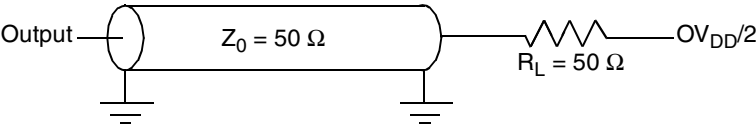
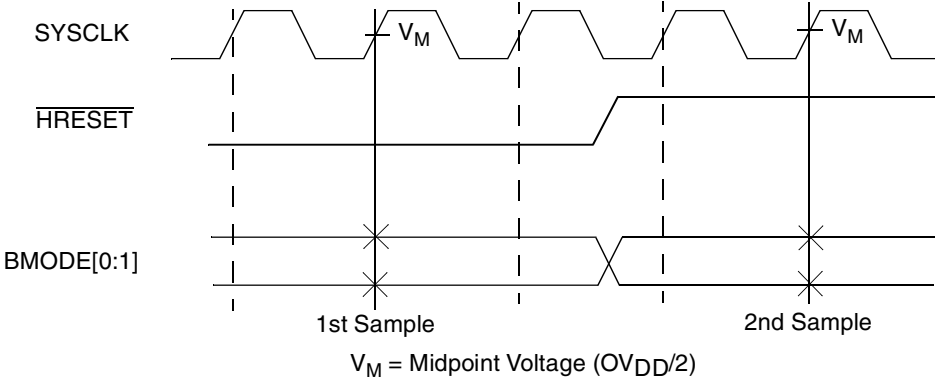
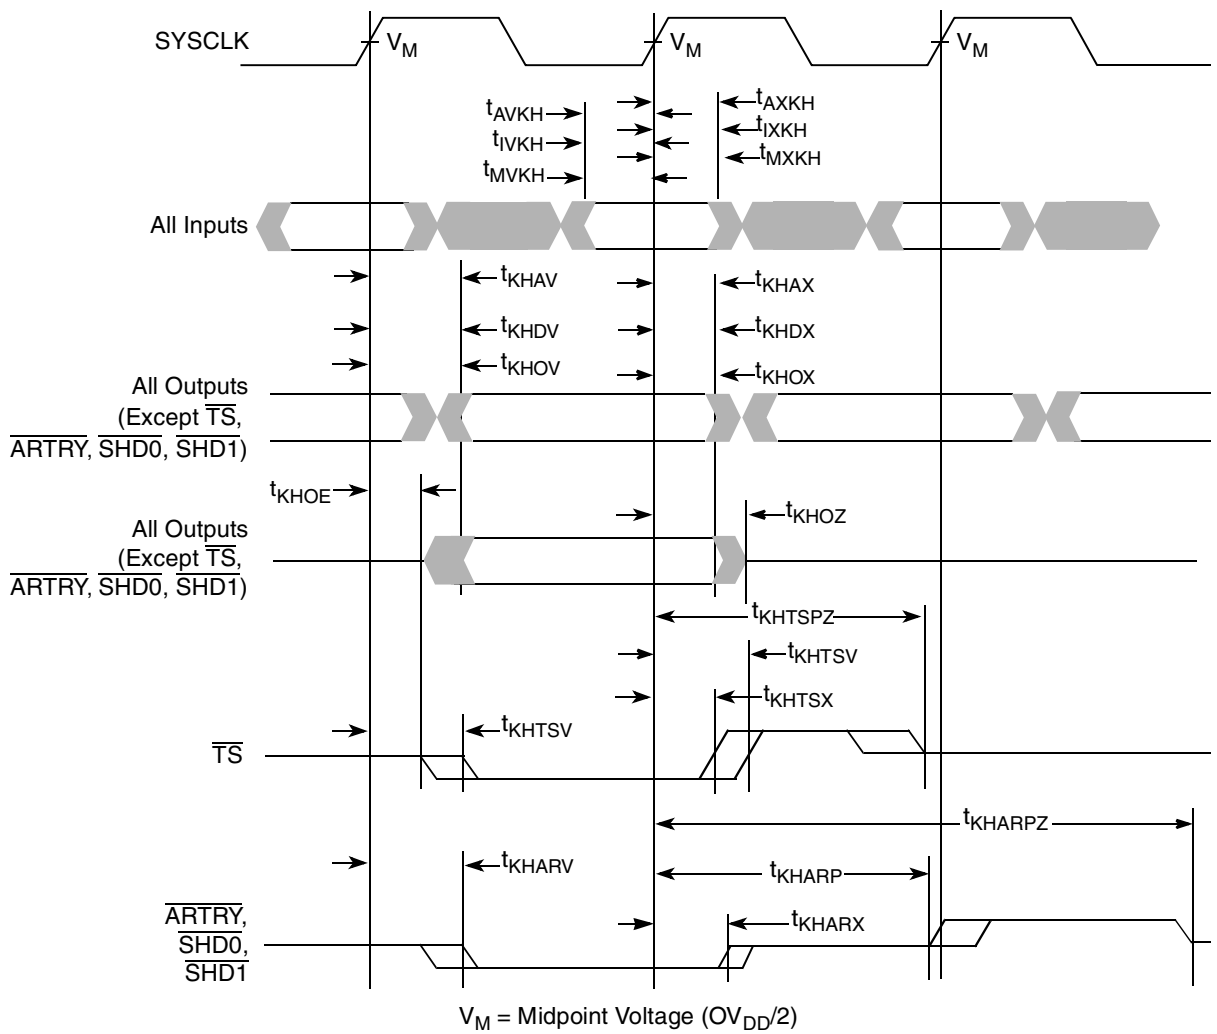

Figure 4. AC Test Load
Figure 5.  $\overline{BMODE}[0:1]$  Input Sample Timing Diagram
Figure 6. Input/Output Timing Diagram
Table 9 provides the processor bus AC timing specifications for the MPC7448 as defined in Figure 4 and Figure 5.
- All input specifications are measured from the midpoint of the signal in question to the midpoint of the rising edge of the input SYSClk. All output specifications are measured from the midpoint of the rising edge of SYSClk to the midpoint of the signal in question. All output timings assume a purely resistive 50-Ω load (see Figure 4). Input and output timings are measured at the pin; time-of-flight delays must be added for trace lengths, vias, and connectors in the system.
- The symbology used for timing specifications herein follows the pattern of  $t_{(signal)(state)(reference)(state)}$  for inputs and  $t_{(reference)(state)(signal)(state)}$  for outputs. For example,  $t_{VKH}$  symbolizes the time input signals (I) reach the valid state (V) relative to the SYSClk reference (K) going to the high (H) state or input setup time. And  $t_{KHOV}$  symbolizes the time from SYSClk(K) going high (H) until outputs (O) are valid (V) or output valid time. Input hold time can be read as the time that the input signal (I) went invalid (X) with respect to the rising clock edge (KH) (note the position of the reference and its state for inputs) and output hold time can be read as the time from the rising edge (KH) until the output went invalid (OX).
- According to the bus protocol,  $\overline{TS}$  is driven only by the currently active bus master. It is asserted low and precharged high before returning to high impedance, as shown in Figure 6. The nominal precharge width for  $\overline{TS}$  is  $t_{SYSClk}$ , that is, one clock period. Since no master can assert  $\overline{TS}$  on the following clock edge, there is no concern regarding contention with the precharge. Output valid and output hold timing is tested for the signal asserted. Output valid time is tested for precharge. The high-impedance behavior is guaranteed by design.
- According to the bus protocol,  $\overline{ARTRY}$  can be driven by multiple bus masters through the clock period immediately following  $\overline{AACK}$ . Bus contention is not an issue because any master asserting  $\overline{ARTRY}$  will be driving it low. Any master asserting it low in the first clock following  $\overline{AACK}$  will then go to high impedance for a fraction of a cycle, then negated for up to an entire cycle (crossing a bus cycle boundary) before being three-stated again. The nominal precharge width for  $\overline{ARTRY}$  is  $1.0 t_{SYSClk}$ ; that is, it should be high impedance as shown in Figure 6 before the first opportunity for another master to assert  $\overline{ARTRY}$ . Output valid and output hold timing is tested for the signal asserted. The high-impedance behavior is guaranteed by design.
- $\overline{BMODE}[0:1]$  and  $BVSEL[0:1]$  are mode select inputs.  $\overline{BMODE}[0:1]$  are sampled before and after  $\overline{HRESET}$  negation.  $BVSEL[0:1]$  are sampled before  $\overline{HRESET}$  negation. These parameters represent the input setup and hold times for each sample. These values are guaranteed by design and not tested.  $\overline{BMODE}[0:1]$  must remain stable after the second sample;  $BVSEL[0:1]$  must remain stable after the first (and only) sample. See Figure 5 for sample timing.
Figure 4 provides the AC test load for the MPC7448.
Figure 5 provides the  $\overline{BMODE}[0:1]$  input timing diagram for the MPC7448. These mode select inputs are sampled once before and once after  $\overline{HRESET}$  negation.
Figure 6 provides the input/output timing diagram for the MPC7448.